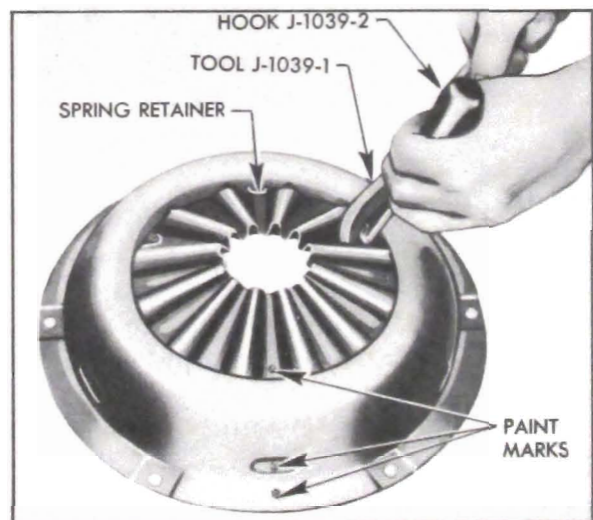

Figure 4-12—Attaching Spring Retainer to Cover
1. Place pressure plate and cover assembly on flat work surface and *mark cover, pressure plate, and clutch spring* with paint so that parts can be reassembled in the same relationship to each other in order to preserve engine balance. See figure 4-12.
2. Unhook spring retainers from ears on clutch cover, using Assister Hook J 1039-2 shown in figure 4-12, Tool J 1039-1 shown in illustration is not used in this operation.
5. Use Assembly Tool J1039-1 and Assister Hook J1039-2 to hook loop of each spring retainer over ear on clutch cover. See figure 4-12. Do not hammer on tools to get them into place because this will distort clutch cover. Do not stretch retainers any further than is necessary to hook loop over ear on cover. If retainers appear weak or distorted they should be replaced in complete sets to insure even tension.